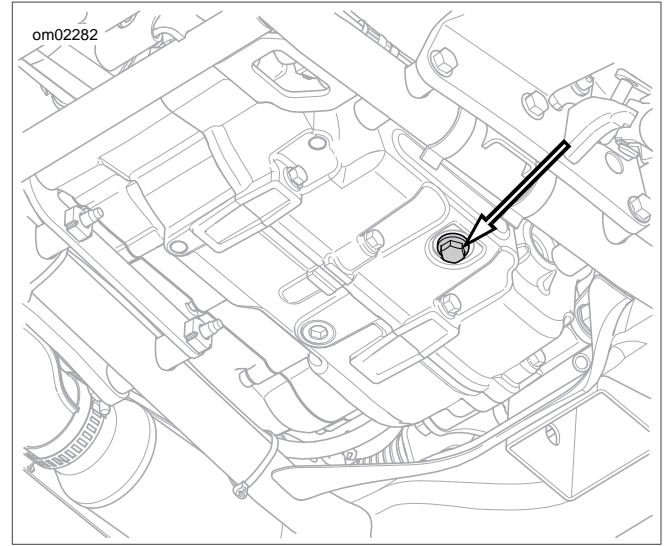

Figure 25. Engine Oil Drain Plug
3. See Figure 25. Remove the engine oil drain plug. Discard O-ring.